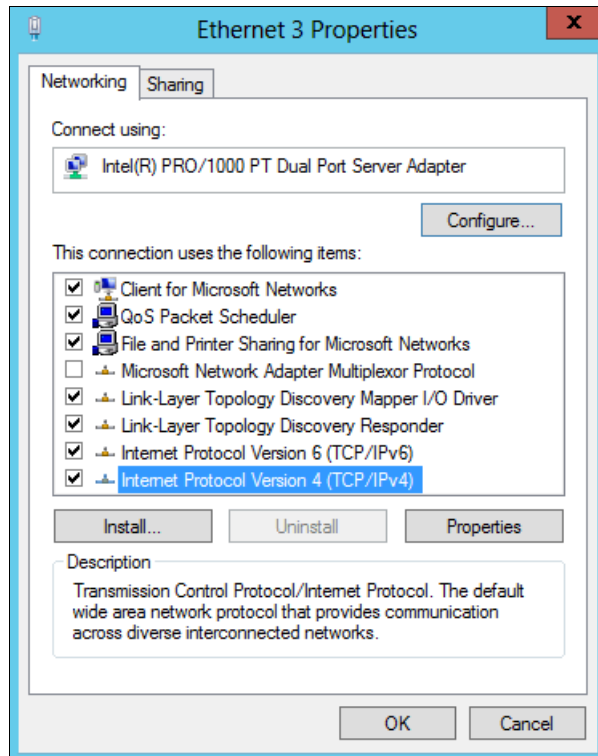

Figure 5-15 Ethernet properties
- To configure the IP address, click **Properties** (see Figure 5-15).